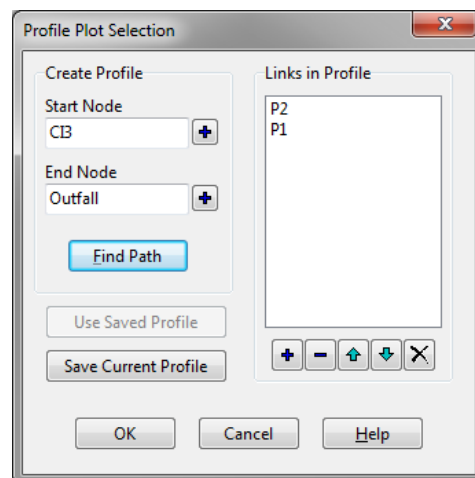

Figure 8 Profile Plot Selection dialog
8. Click  **Create a Profile Plot** to bring up the *Profile Plot Selection* dialog (Figure 8).